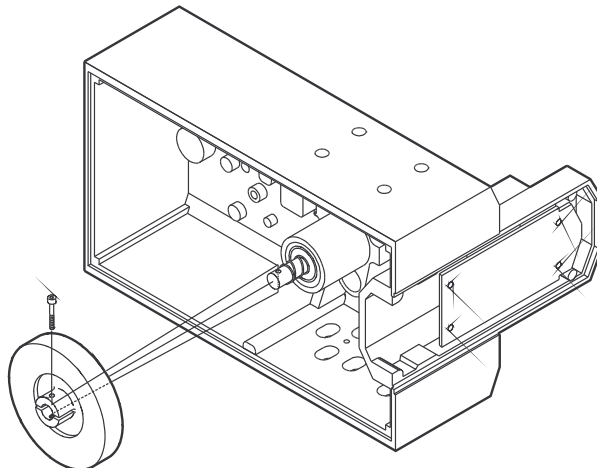

Figure 2.2 Flywheel Mounting
10. Remove the shipping collar using the supplied Allen wrench, and install the Digital Soundhead flywheel, which is packed separately for shipping (see **Figure 2.2**).